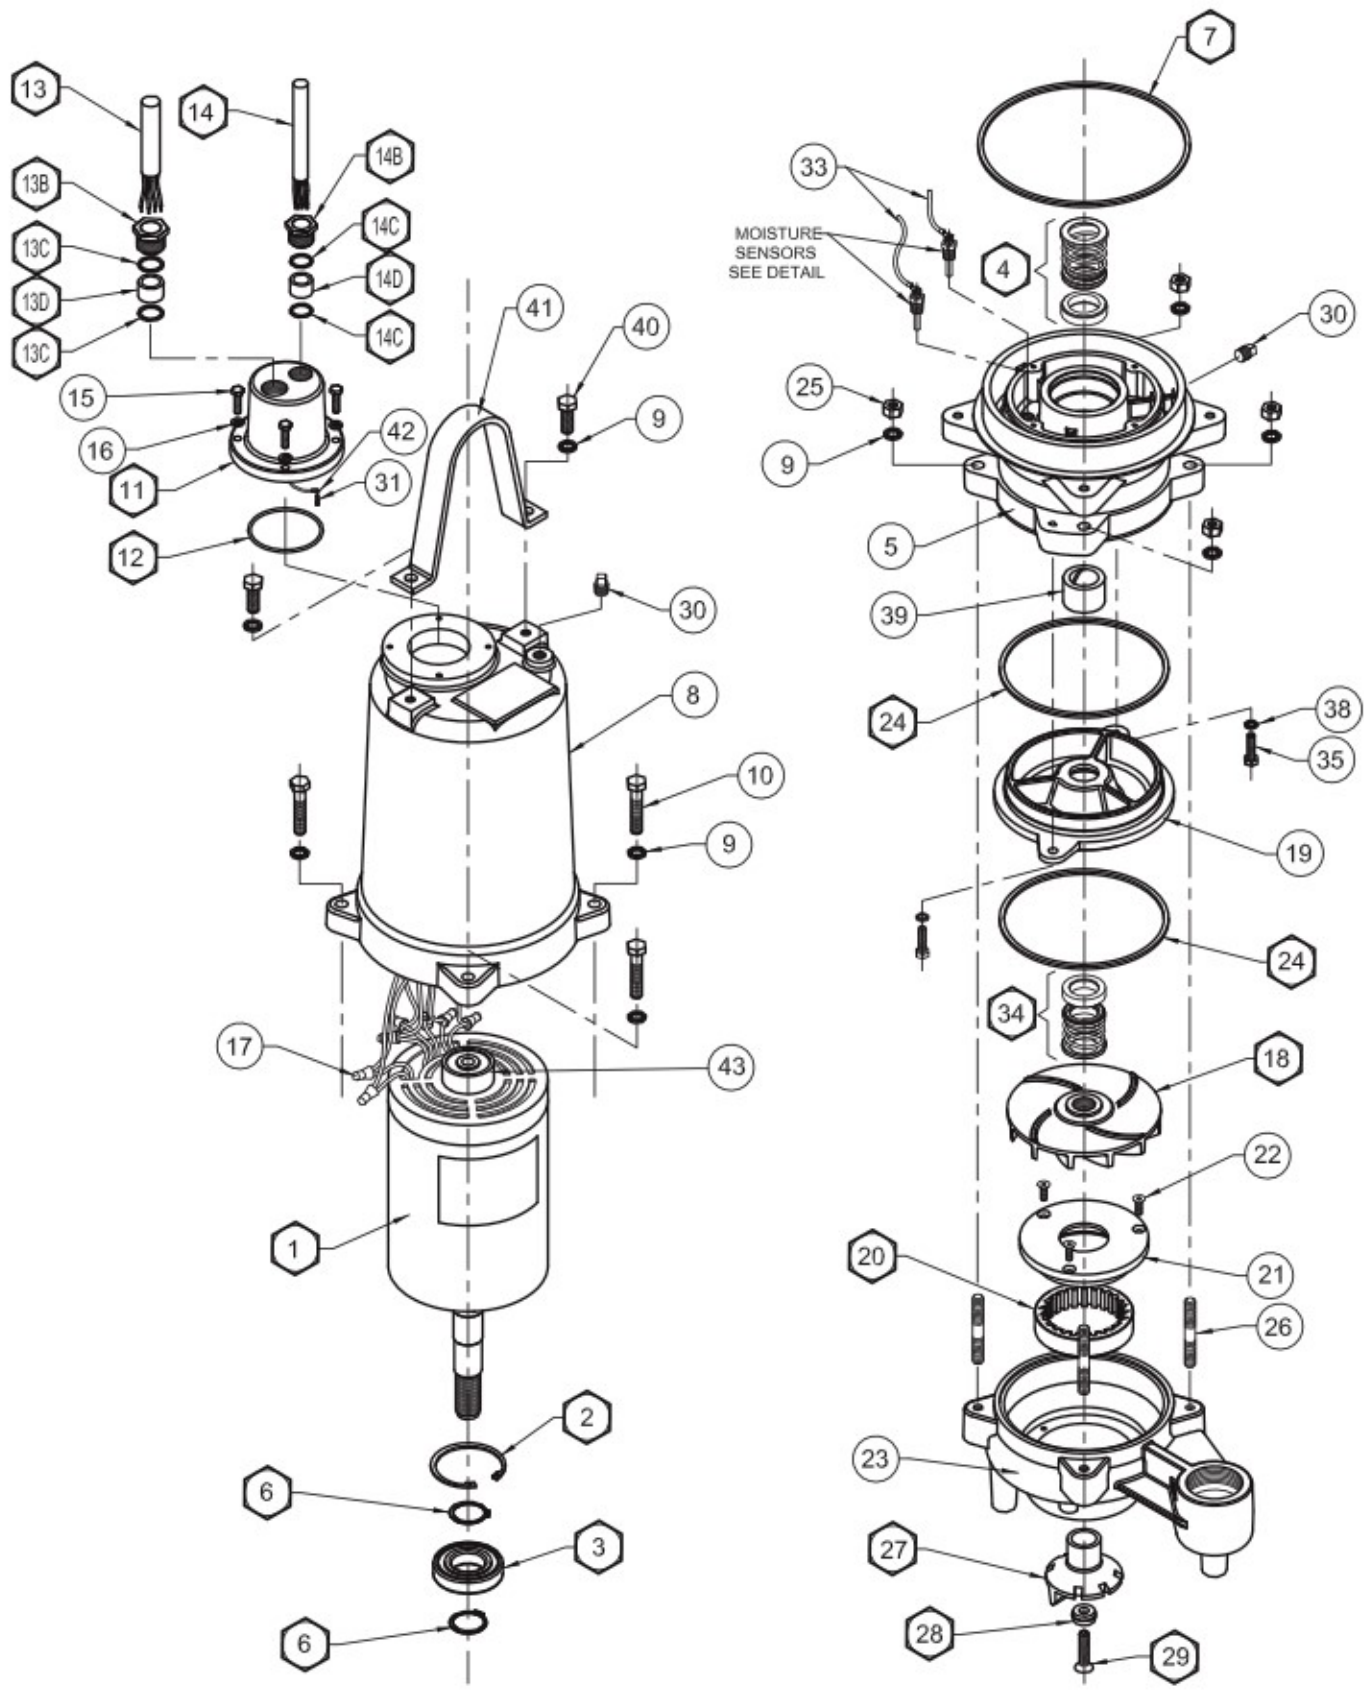

**Figure 7**
**Cable Assemblies** - Power cable, Place one friction ring (13C), grommet (13D), one friction ring (13C) and hex plug (13B) into conduit box (11). Control Cable, Place one friction ring (14C), grommet (14D), one friction ring (14C) and hex plug (14B) into conduit box (11). Torque hex plugs to 15 ft. lbs. to prevent leakage. See Figures 7 & 8.
**Seal Plate** - Lubricate and set square ring (24) in bottom groove of seal plate (19). Place seal plate (19) over shaft and onto intermediate coupling (5), being sure square ring (24) is not twisted and in the groove. Place two capscrews (35) with lockwashers (38) into seal plate and torque to 6.5 ft/lbs.
**Outer Seal** - Clean and oil stationary seal cavity in seal plate (19). Slide seal guide tool over motor shaft. Lightly oil (**Do not use grease**) outer surface of seal's (34) stationary member.